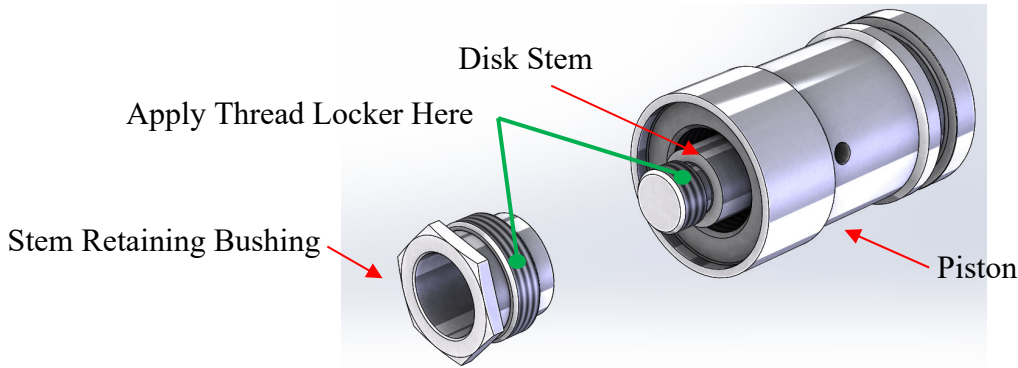

Figure 59: Disk Stem and Stem Retaining Bushing
13. Apply a small amount of high strength thread retainer on the male threads of the stem retaining bushing. See Figure 59.
16. Apply a small amount of high strength thread retainer on the male threads of the stem. See Figure 59.